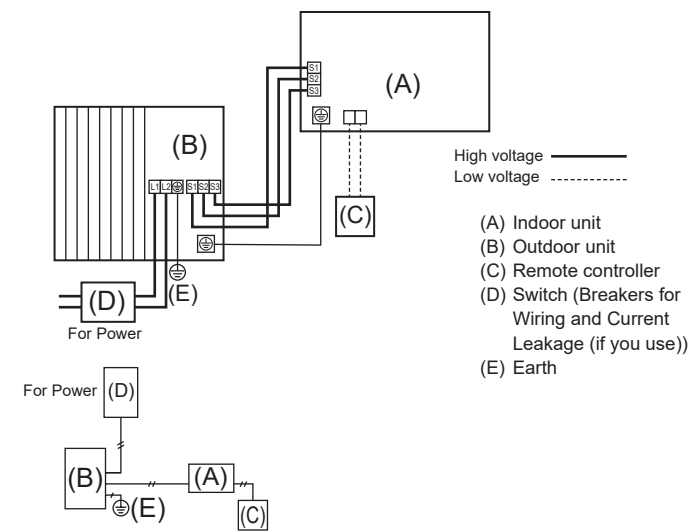

Fig. 6-1
6.1. Outdoor unit (Fig. 6-1, Fig. 6-2)
- 2. Wire the cables referring to the Fig. 6-1 and the Fig. 6-2.